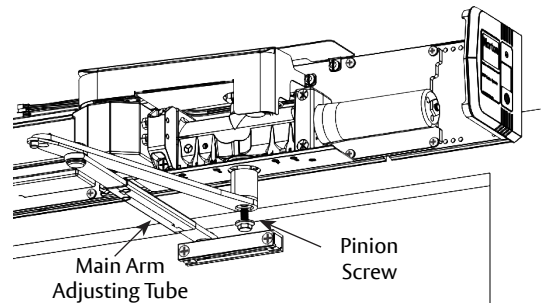

Figure 27
2. Slide forearm into main arm adjusting tube. (Figure 27)
3. Place square of main arm onto closer pinion. (Figure 27)
4. Attach main arm to pinion with screw then tighten with 7/16" wrench. (Figure 27)